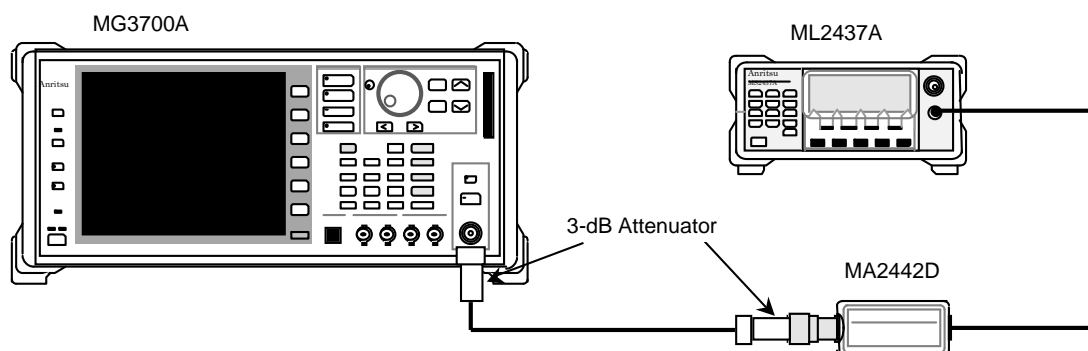

Figure 6.3.1-1 Signal Generator Calibration Setup (CW)
1. Setup the instruments as shown in Figure 6.3.1-1.
2. Output a CW 399.99 MHz signals from the Vector signal generator (SG) at a level of +6 dBm